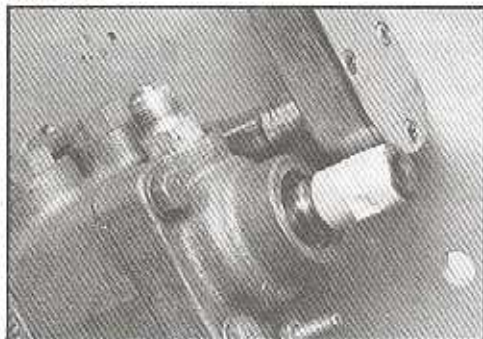

Figure 37
- 3.12 Assemble the four bolts (7A) and washers (7B) into upper cover (7). Carefully torque the bolts while checking that the adaptor (20), valve assembly (18) and upper cover are properly piloted and positioned with all seal rings in place. Torque bolts to 25-35 ft. lbs. (34-47 N m) if dry, or 21-27 ft. lbs. (28-37 N m) if lubricated. SEE FIGURE 37.